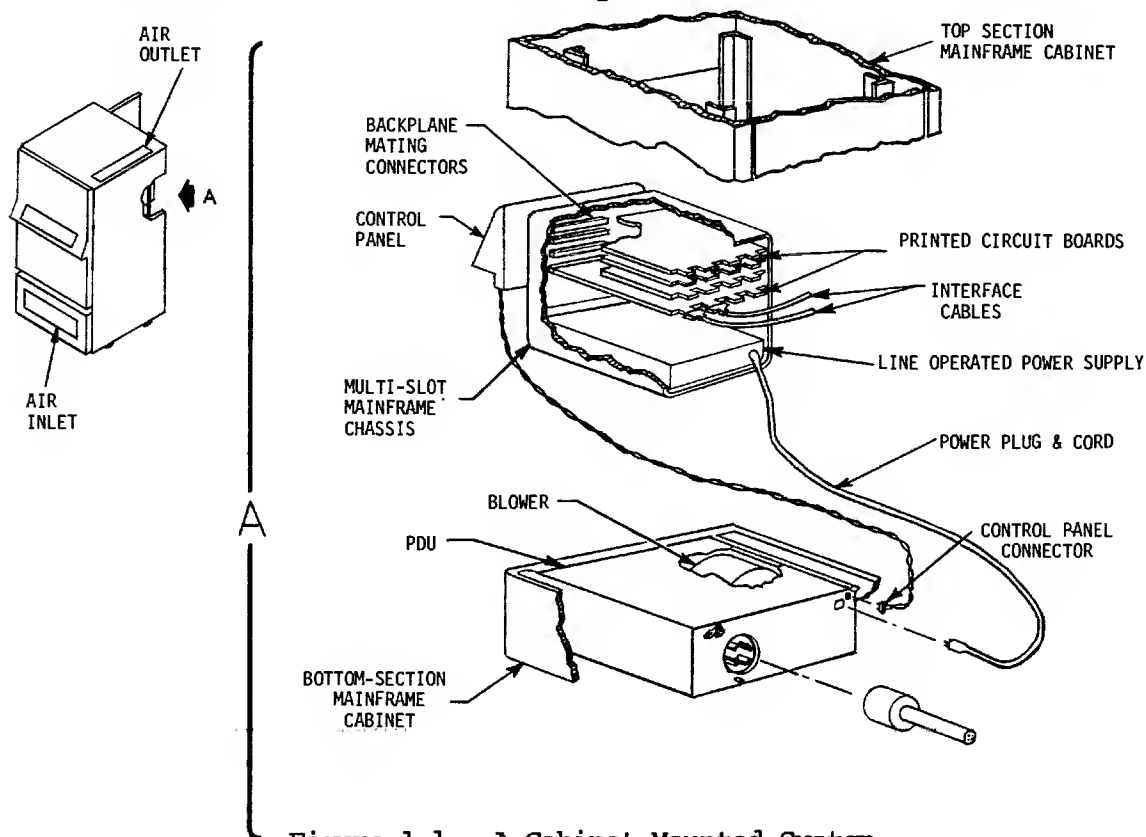

Figure 1-1. A Cabinet-Mounted System
A cabinet-mounted system (Figure 1-1) constitutes a mainframe system mounted in a mainframe cabinet. Cabinet-mounted systems are ordered either as central systems, product series CX-XXXX-XX(A), or as combinations of a mainframe systems and mainframe cabinets, product series numbers PX-XXXX-XX(A) and 7520-901A. Central systems include two installable units: a cabinet-mounted system (refer to its CX-XXXX-XX(A) number in the Equipment Specification Table A-1, Appendix A) and a system console (Terminet 30; refer to product 3111(A) in the Equipment Specification Table A-5, Appendix A).